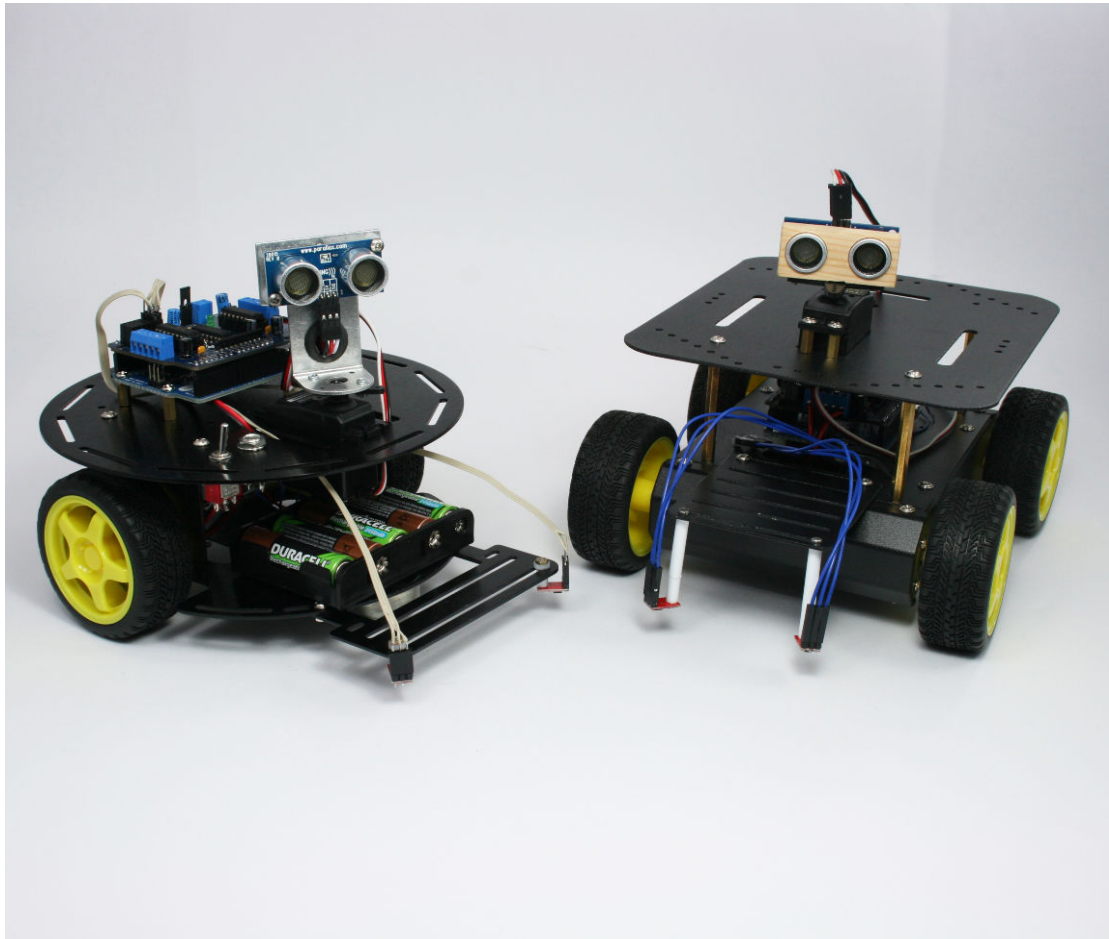

Figure 1-5. *Two wheeled and four wheeled robots with distance scanners*
- Enabling the robot to look around—scanning using a servo so the robot can choose the best direction to move, as shown in Figure 1-5.